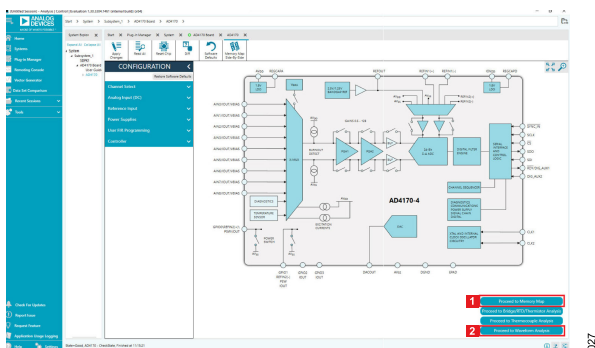

Figure 27. Chip View, Noise Test
3. The summary is then displayed once the write is complete. From the displayed summary, to navigate to the chip view, double-click the **AD4190-4** chip (Figure 27). To make further changes to the configuration, double-click the **Proceed to Memory Map** button (Label 1, Figure 27). To begin capturing data, double-click the **Proceed to Waveform Analysis** button (Label 2, Figure 27).